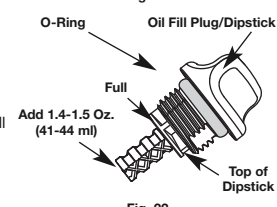

Fig. 22
5. Remove the oil fill plug/dipstick and check the oil level. Oil should be up to the top of the dipstick (Fig. 22).
NOTE: Make sure the O-ring is in place on the oil fill plug/dipstick when checking and changing the oil (Fig. 22).